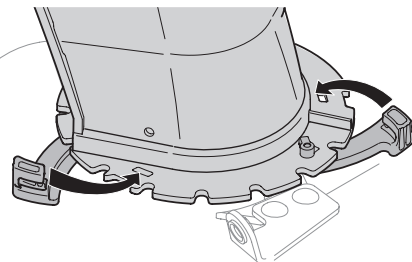

Figure 2-18
2. Close flange keepers to secure chute assembly to chute base. Flange keepers will click into place when properly secure. See Figure 2-18.